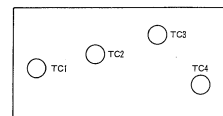

Fig. 14 Final unit (X56-1150-00)
- (1) Maintaining power supply voltage of 12 V, disconnect the RF VTVM. Adjust T3 in the RF unit and TC1 and TC2 in the final unit for maximum current (Fig. 14).